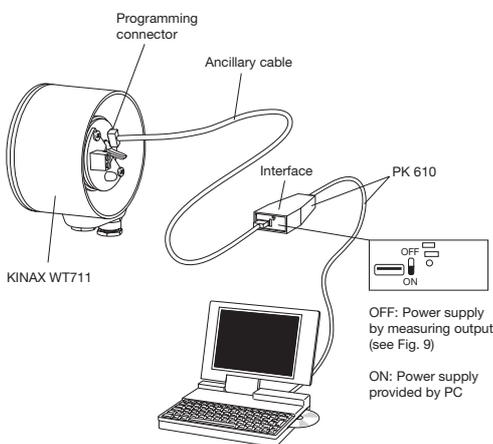
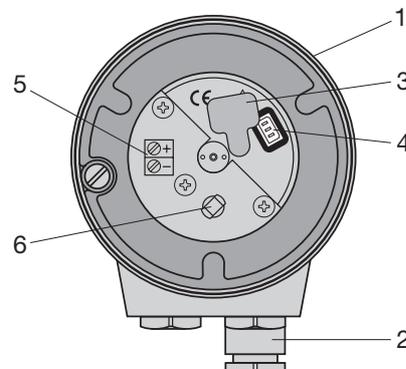

Fig. 6
Fig. 8. Housing (1) with the cover removed showing the screw terminals (5) and cable glands (2).
1. Remove the plastic cover from the housing. Remove the rubber cover (3) to gain access the programming connector (4) (see section «8.1 Connecting transmitter» and Fig. 8). Connect the KINAX WT 711 to the programming device according to Fig. 6. Start the 2W2 configuration software. If necessary, configure the device with the required measuring range data.
1. Put the transmitter into operation and connect the programming device according to Fig. 6 (AUX switch on the PK 610 on the OFF position).